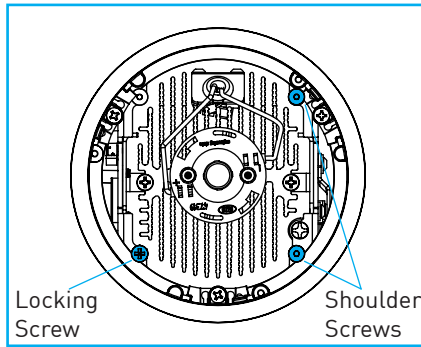

Fig.37
- Remove adjustment mechanism by loosening locking screw and removing two shoulder screws "Fig.37".
- Reinstall adjustment mechanism by installing shoulder screws and tightening the locking screw "Fig.37".